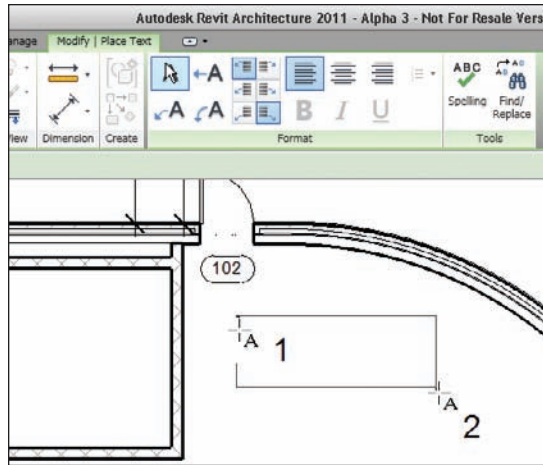

FIGURE 5.48 To place leader-less text, you must pick a window.
5. On the Leader panel you get choices for a leader. For this example, select the None button. It is the button with the A on it, as shown in Figure 5.48.
6. To place the text, you need to pick a window. Pick the point labeled "1" in Figure 5.48.
7. Pick the point labeled "2" in Figure 5.48.